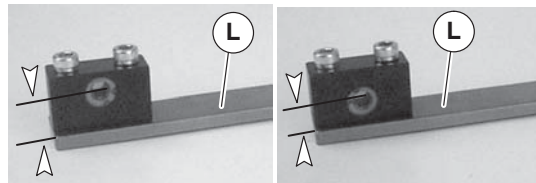

Figure 12
2. Check bearing support assembly (Figure 12, item L) setup: 2100 (left) and 4100 or 6200 (right).